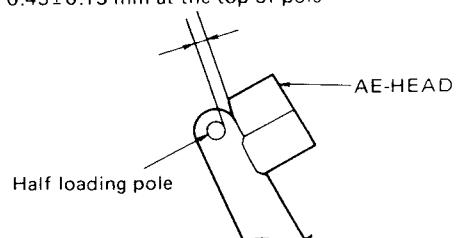

Fig. 4-10
- 2) Loosen the set screw ⑤ so that PLATE-HL-1 can be moved.
- 3) Adjust the taper screw ④ so that the gap between the half loading pole and AE-HEAD shall be  $0.45 \pm 0.15$  mm at the top of the pole. (Fig. 4-10).
- 4) Tighten the set screw ⑤. After tightening, check again if the gap is  $0.45 \pm 0.15$  mm. If not, loosen the set screw ⑤ and adjust the gap again.
- 5) On completion of adjustment, lock the taper screw ④ and the set screw ⑤ with a locking compound.